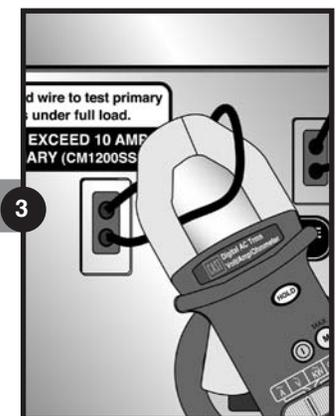

Fig. 20. Amping the primary.
- 3 **Amp the Primary at the Photocell Plug (for 300 to 600 Watt transformers) or Testing Loop (for 900 to 1500 watt transformers).** (Fig. 20.) Use the jumper wire at the Photocell Plug or Testing Loop to measure the total load on the transformer. The reading should not exceed the transformer's rating (see chart below.)